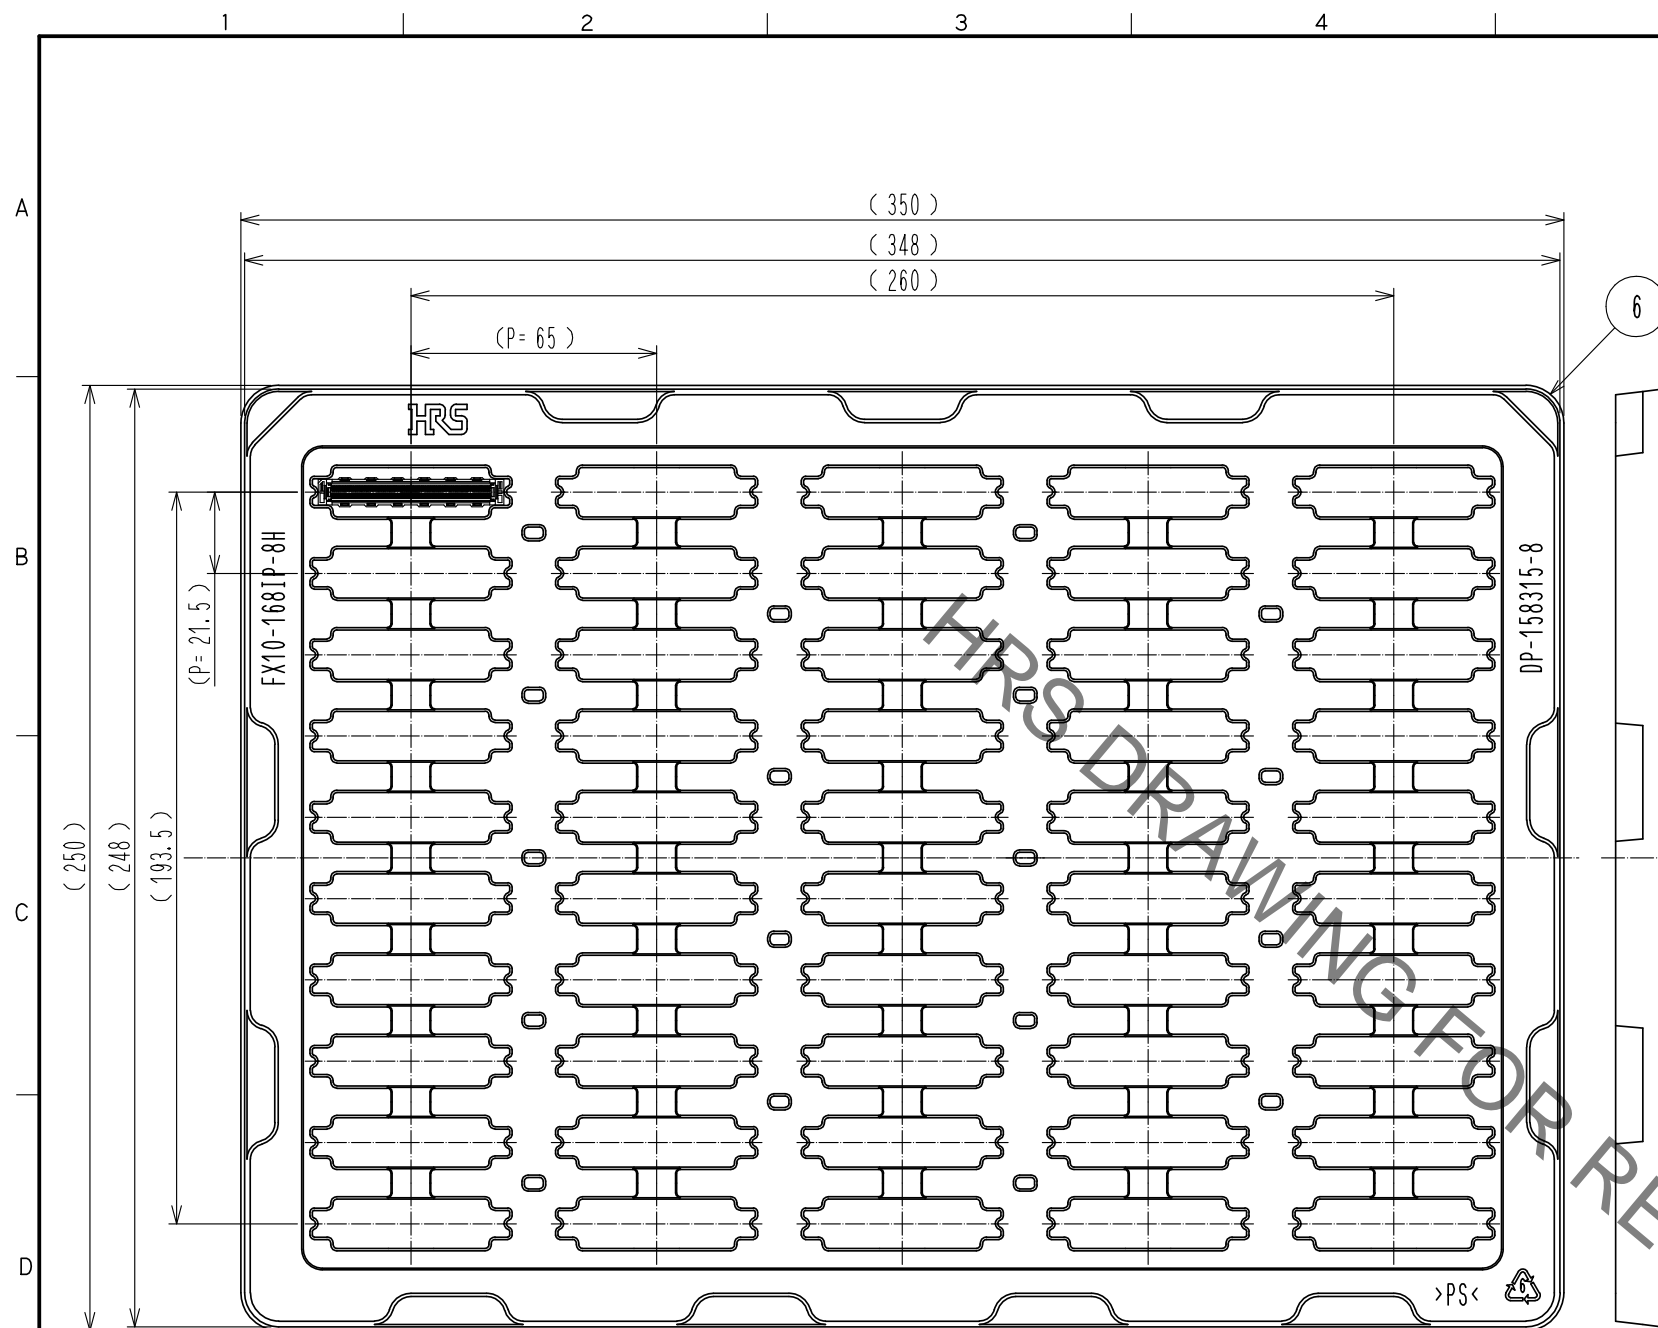

Fig.3 Drawing for packing (1:2) 6
- ◀ 6 50pcs of this product are packed in soft tray. See Fig.3 for details.